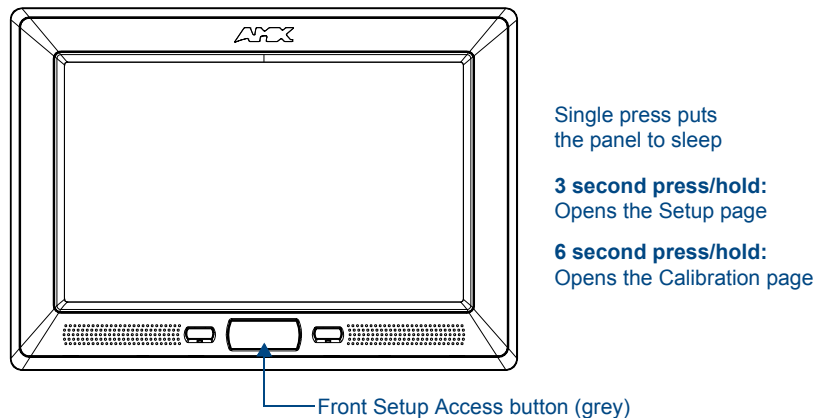
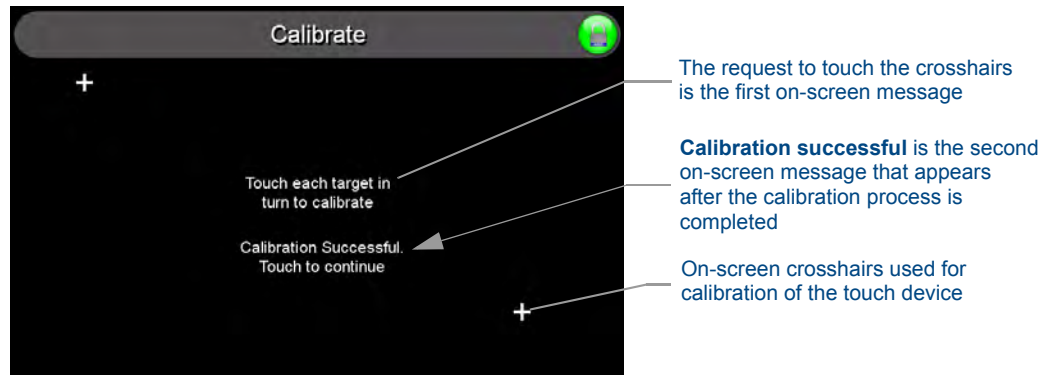

FIG. 26 Location of Front Setup Access button
FIG. 27 Touch Panel Calibration Screens
1. Press and hold the grey Front Setup Access button (FIG. 26) for **6 seconds** to pass-over the Setup page and access the Calibration setup page (FIG. 27).
2. Press the crosshairs (on the Calibration page) to set the calibration points on the LCD (FIG. 27).